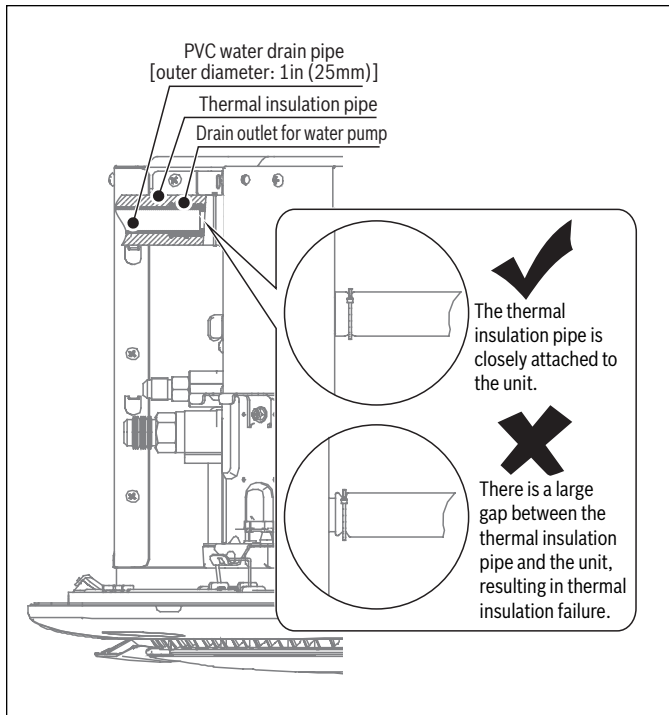

Figure 15
- Wrap the insulation (field supplied) over the metal clamp and drain hose to insulate. See Figure 15.